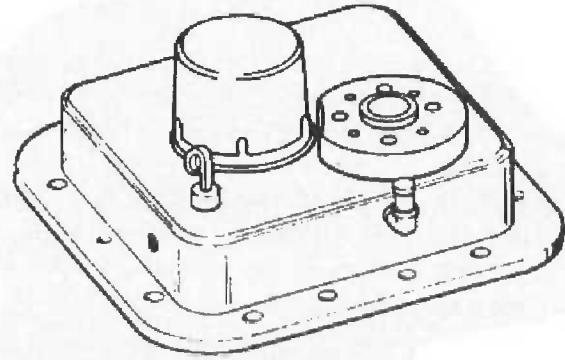

Figure 27 — Upper (input) housing
2. Refer to Fig. 27. Reinstall adapter and bearing cups.